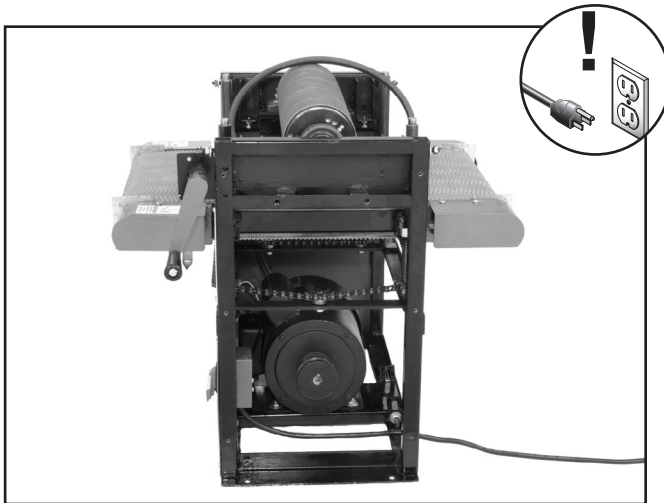

Figure 42. Drum sander disassembled to **Step 8**.
- Loosen the hex bolts securing the motor bracket to the frame, raise the motor and remove the V-belt from the motor pulley (see **Page 27** for help). The drum sander should now look similar to **Figure 42**.